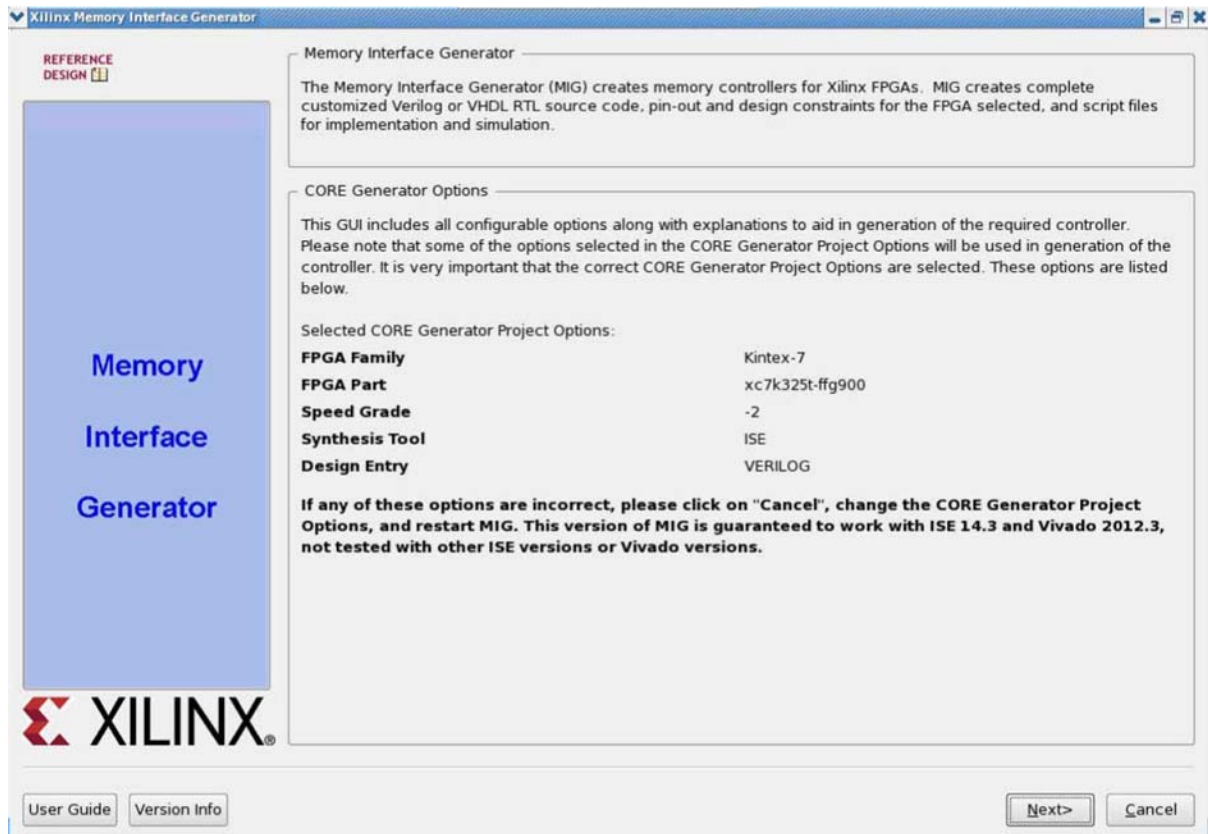

Figure 2-13: 7 Series FPGAs Memory Interface Generator FPGA Front Page
- Select **MIG 7 Series** to open the MIG tool (Figure 2-13).